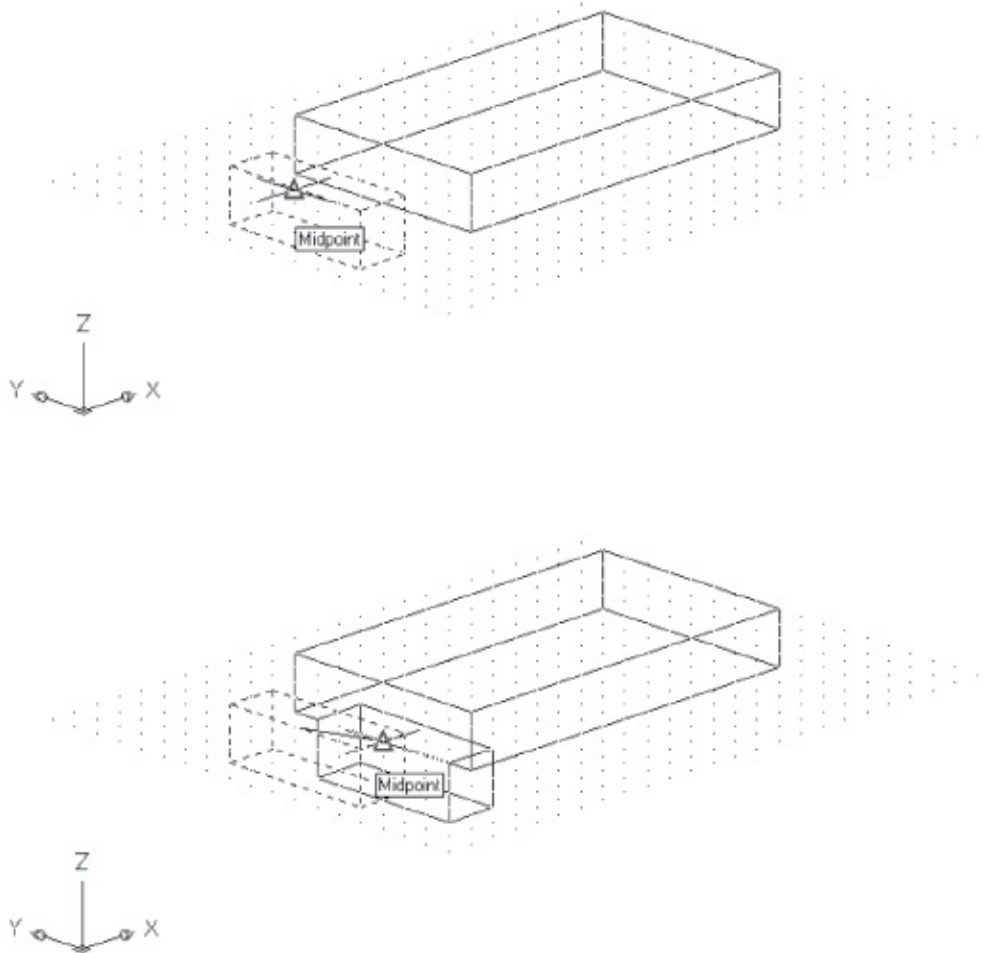

FIGURE 22.4 Moving the smaller box
2. At the Specify base point or [Displacement] <Displacement>: prompt, use the Midpoint osnap override and pick the middle of the front edge of the smaller box, as shown in the top image in Figure 22.4.
3. At the Specify second point or <use first point as displacement>: prompt, use the Midpoint osnap to pick the middle of the bottom edge of the larger box, as shown in the bottom image in Figure 22.4.